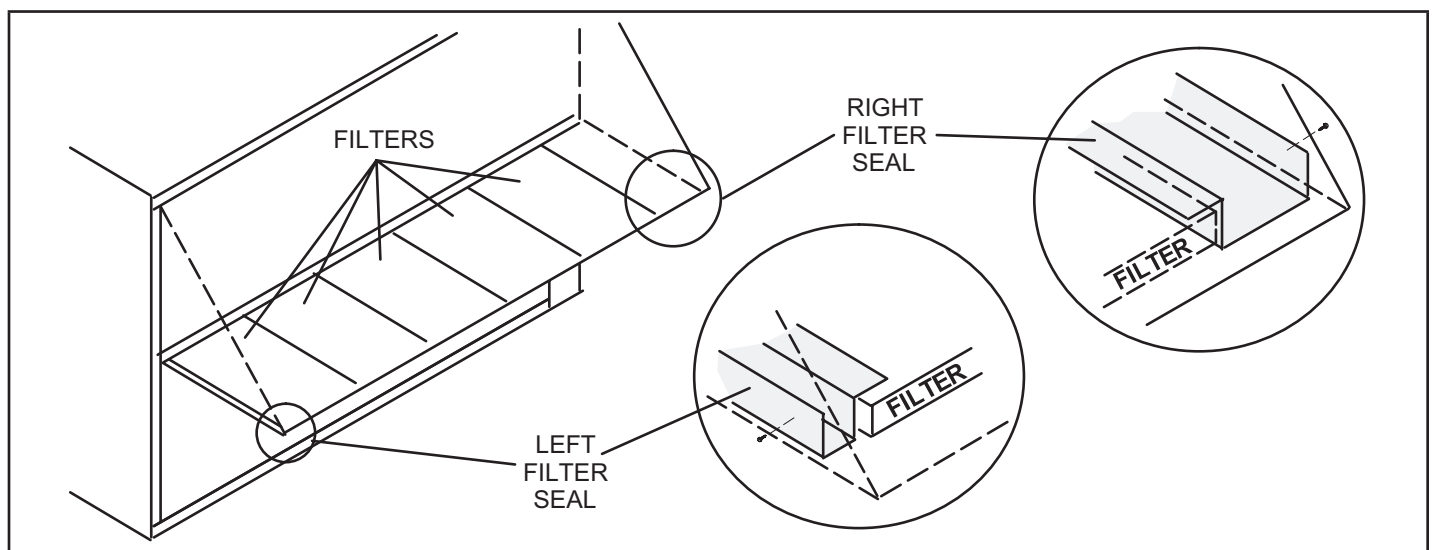

FIGURE 16
- 7 - Secure side seals to the hood sides as shown in FIGURE 16.